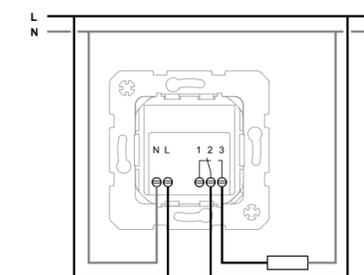

Figure 5: Connection diagram
- Connection the thermostat according to the connection diagram (Figure 5).